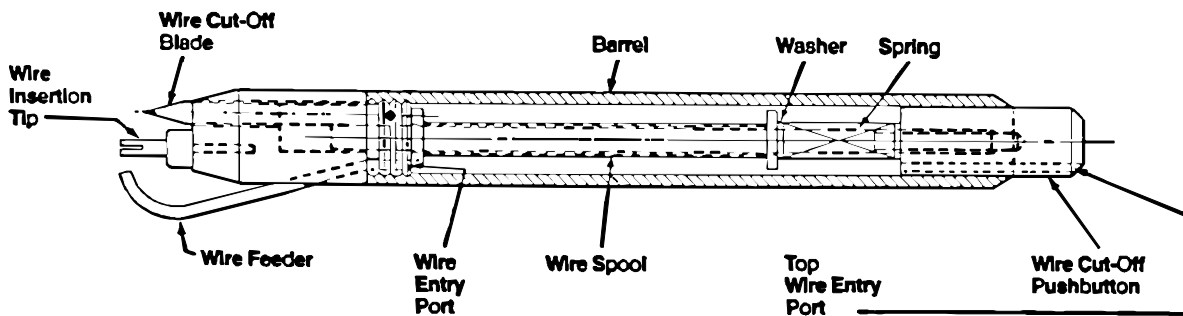

Fig. 9
1. Unscrew threaded barrel from Insertion Tool Assembly (Figure 9).